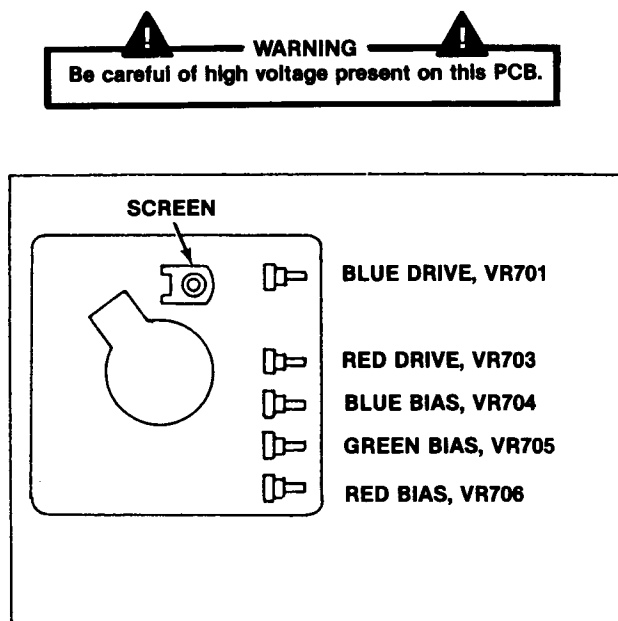

Figure 10 Locations of Tracking Adjustments on the CRT PCB
6. Set the game so it displays only the green crosshatch diagnostic pattern. If the game does not produce a green-only crosshatch pattern, turn off R-DRIVE VR703 and B-DRIVE VR701 of the display CRT PCB. Refer to Figure 10 for the locations of the Drive controls.
3. On the CRT PCB, set the R-DRIVE, B-DRIVE, and the R-, G-, and B-BIAS controls to their mechanical centers. Turn the SCREEN control VR707 to minimum (fully counterclockwise). Figure 10 shows the location of all the tracking adjustments on the CRT PCB.